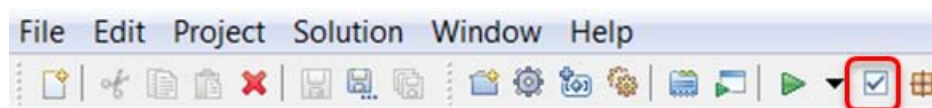

Figure 8-4: Run C/RTL Cosimulation Toolbar Button
- When synthesis completes, use the Run **C/RTL Cosimulation** toolbar button (Figure 8-4) to launch the Cosimulation dialog box.